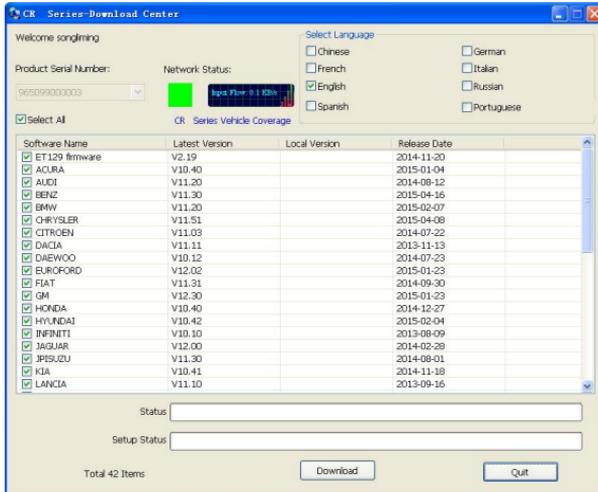

Figure 7-7
9. Reopen the CR update Suite and select the updates you would like to perform or click [Select All] and click [Download]. (Figure 7-7)